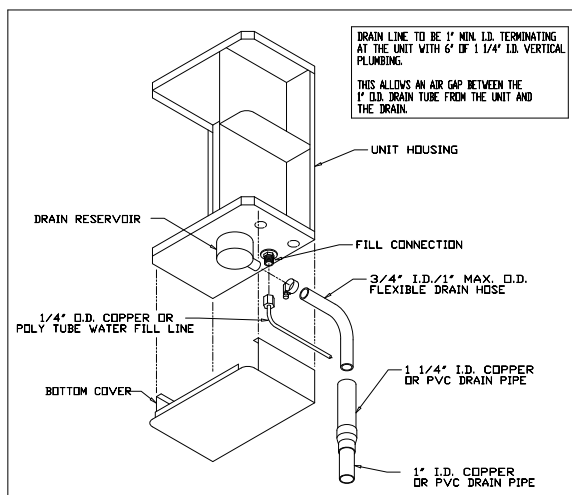

Figure 3
To make the necessary connections for water fill and drain, the following steps are required: (refer to Figure 3 for locations)
4. Insert the other end of the tube into a minimum 6" vertical length of the 1-1/4" minimum I.D. drain line. The balance of the drain line should be 1" I.D. minimum with a minimum 1/8" per foot slope. (See Figure 3.)